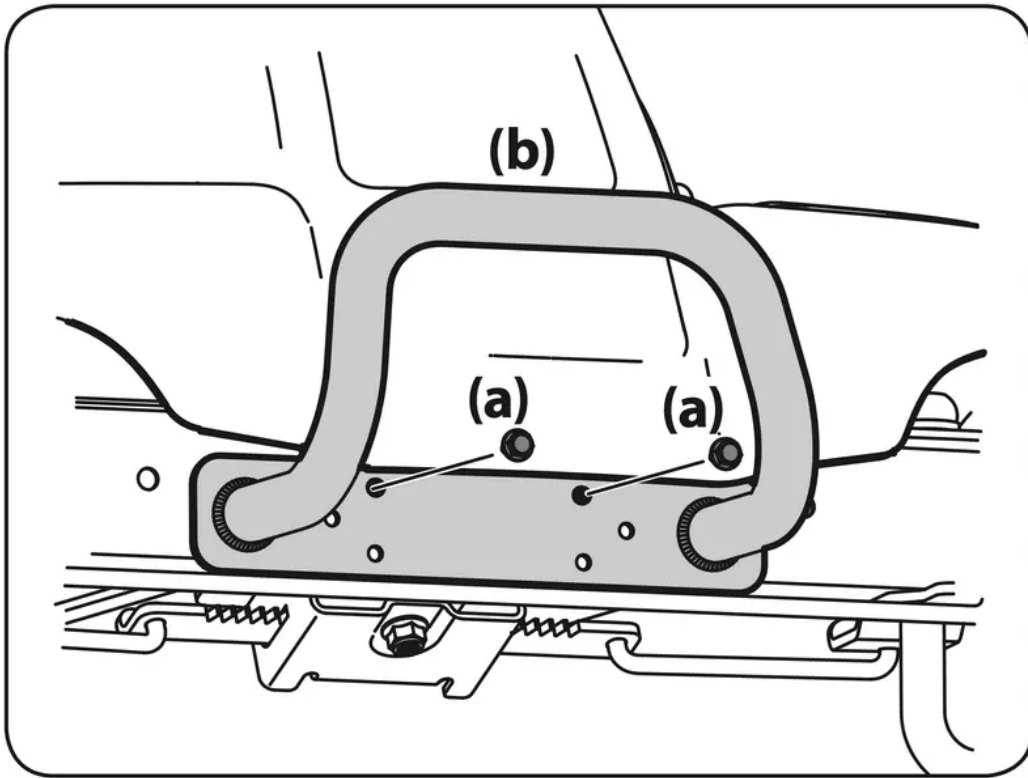

Figure 10
1. Remove the two screws (a) as shown in Figure 10.
2. Position the bumper (b) over the mounting holes and secure using the screws (a) removed in Step 1. See Figure 10.